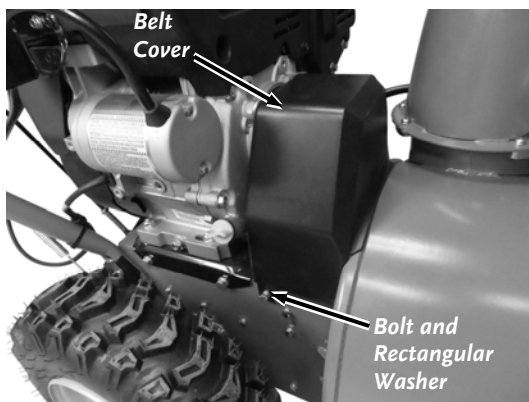

Figure 61
1. Remove the two Bolts and rectangular Washers from the Belt Cover using a 10mm Wrench and remove the Belt Cover (**Figure 61**).
16. Install the Belt Cover (**Figure 61**).